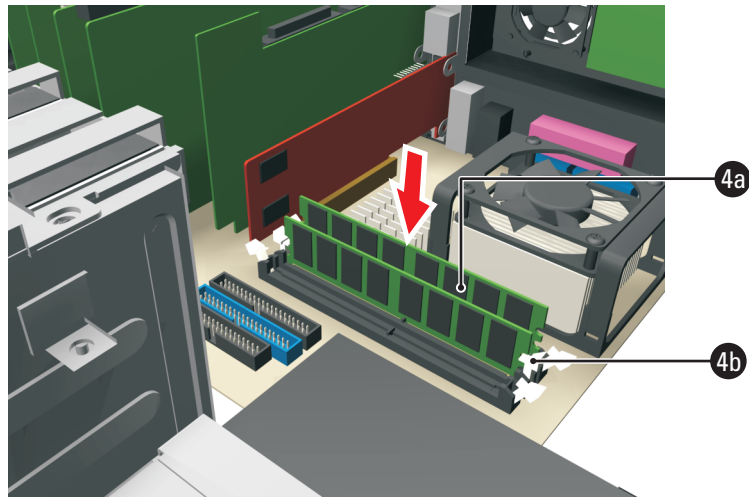

Figure 10. DX8UP-512MBRAM DIMM Installed In Slot DIMM 1
- a. Align the DX8UP-512MBRAM DIMM module with the socket for slot DIMM 1 so that the notch in the module lines up properly with the break in the DIMM socket. Refer to Figure 10.